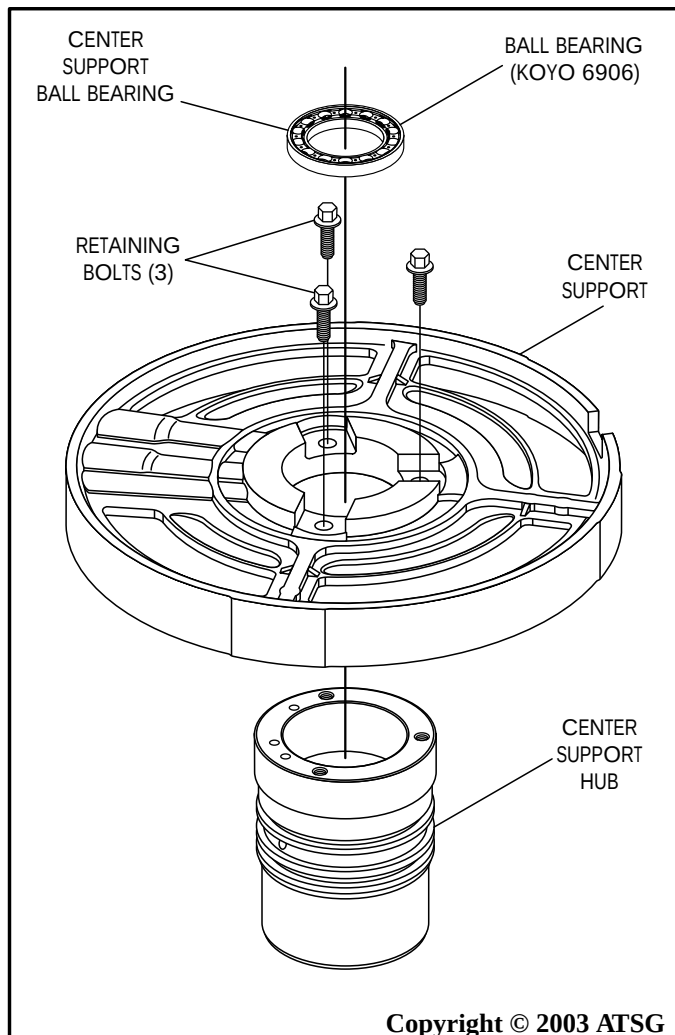

Figure 133
5. It is not necessary to remove the center support from the hub, but if you did, assemble the hub to support as shown in Figure 133, and torque the retaining bolts to 9 -14 N·m (80-100 in.lb.).
6. The ball bearing in the center support is not serviced by Ford, but is available from your local bearing supply house using the number supplied in Figure 133.
7. Install a new ball bearing into center support, as shown in Figure 133, using proper bearing drivers.